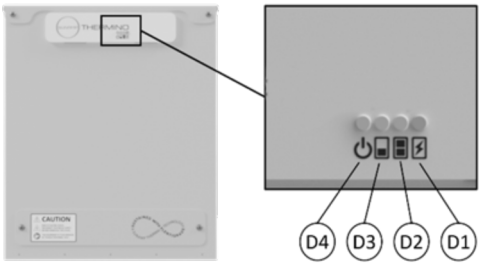

Figure 13 – Flextherm Eco G2 E Heat Battery LED operation
8. Check the front of the Heat Battery to ensure that the “power” and “heating element” LEDs are lit (see Figure 13 & Table 9).